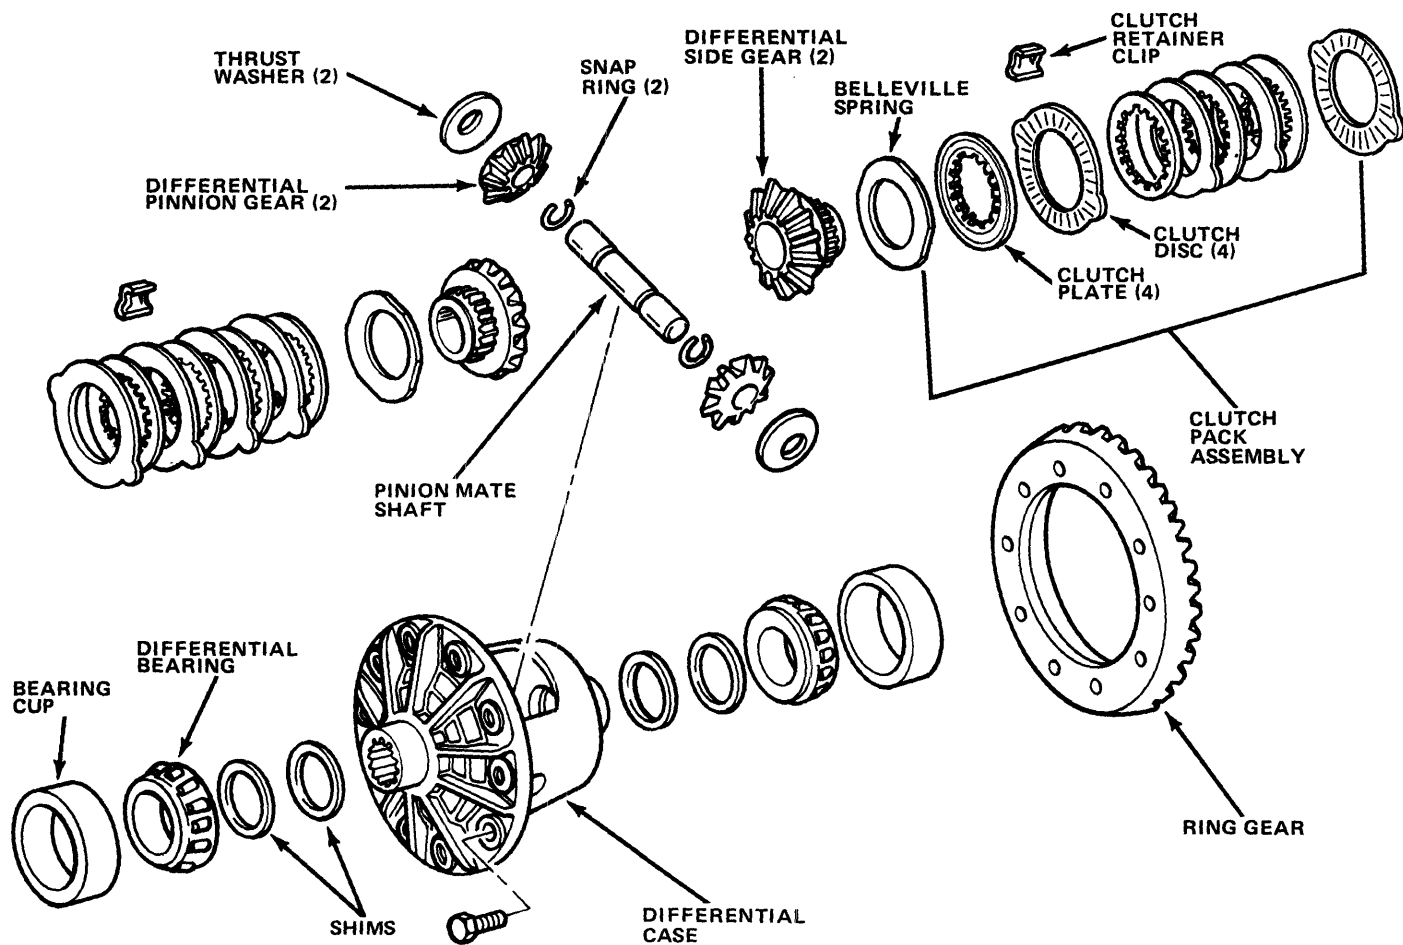

Fig. 10-58 Trac-Lok Differential
(1) Remove Trac-Lok differential from axle housing. Removal procedures are same as outlined for standard differential. Refer to Figure 10-58 for parts nomenclature.